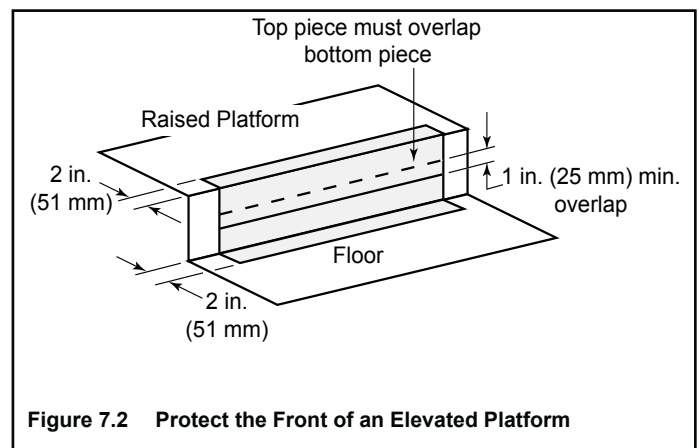

Figure 7.2 Protect the Front of an Elevated Platform
- Protect the front of a platform elevated above the hearth extension with metal strips (not included with fireplace) per Figure 7.2. See Section 11 for hearth extension instructions.